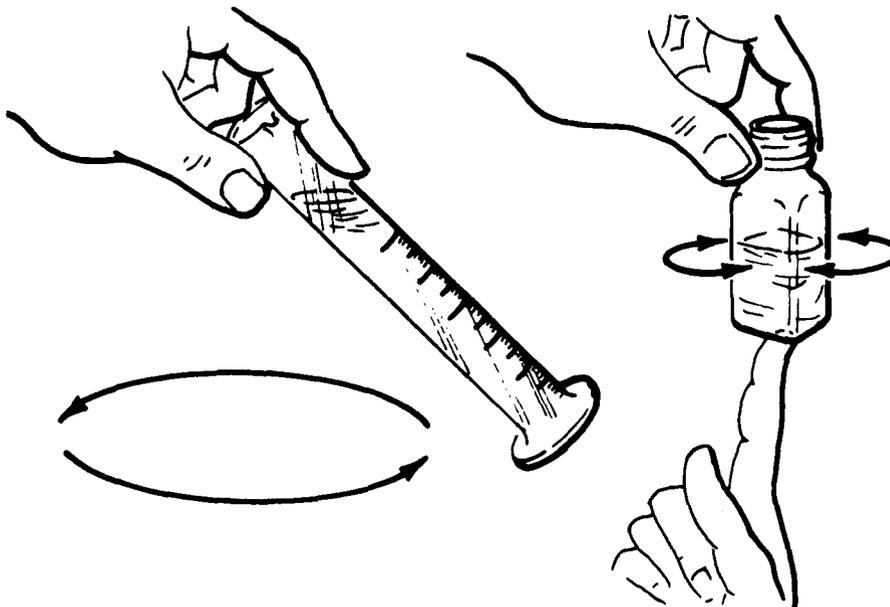

Figure 2-1. Swirling Techniques
1. When mixing is done in a square sample cell, the swirling motion is attained by a simple twisting motion as shown in figure 2-1. This is done by grasping the neck of the cell with the thumb and index finger of one hand while resting the concave bottom of the cell on the tip of the index finger on the other hand. Rotate the cell quickly, first one way and then the other, to mix the samples.
2. A swirling motion is also recommended when the mixing takes place in a graduated cylinder or a titration flask. In this case, however, grip the cylinder (or flask) firmly with the tips of three fingers (fig. 2-1). Hold the cylinder at a 45 degree angle and twist the wrist. This motion will move the cylinder in an approximately 12-inch circle, thereby giving liquids an intense rotation which accomplished complete mixing in a few turns.
- e. Swirl the titration vial (fig. 2-1) so that each addition of titration reagent is thoroughly mixed with the sample. Continue adding titration reagent until the color change takes place in the test sample. If no color change is noted by the time the plunger tip reaches line 20, refill the burette from the titration reagent bottle, wipe off the tip, and continue adding titration reagent until the color change is observed.